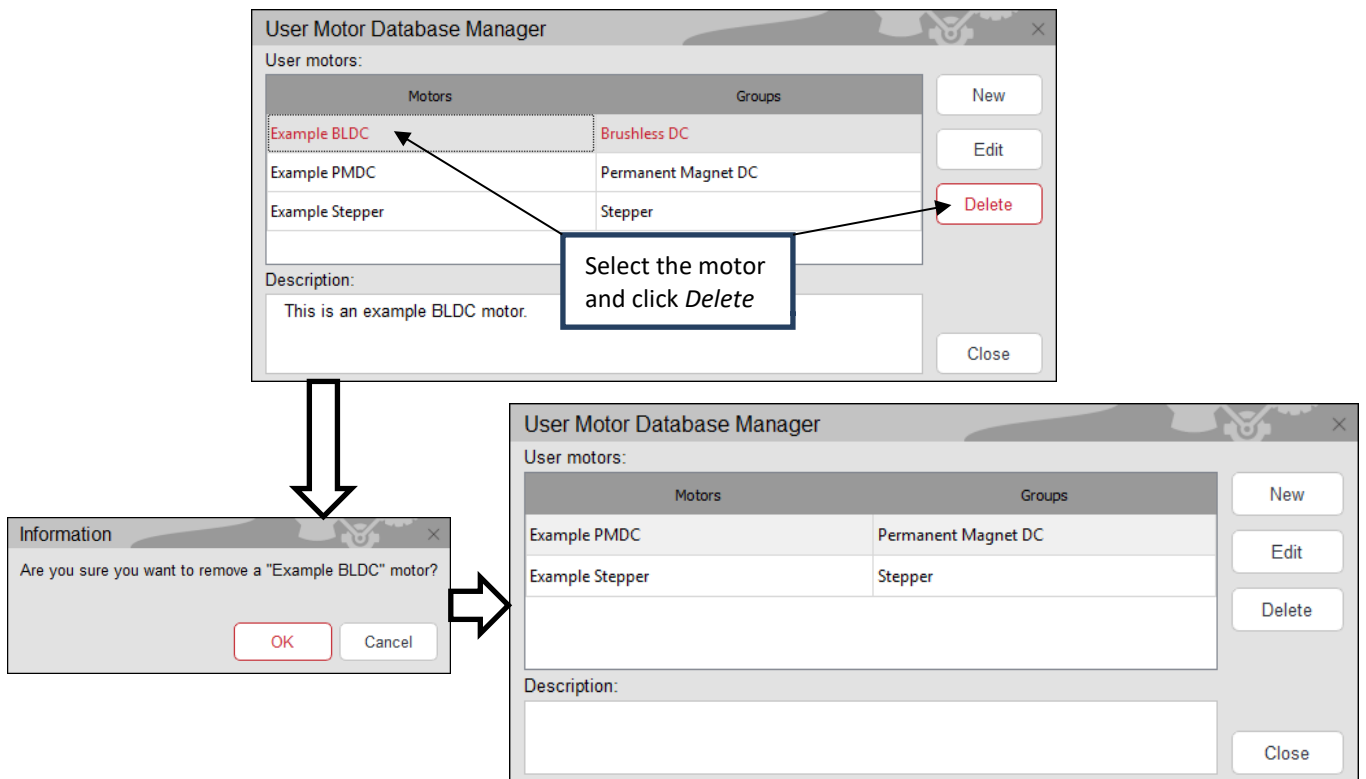

Figure 77: Delete Motor
- Open the *User Motor Database Manager* window and select the motor to be deleted and click *Delete*. Click *OK* in the information window as shown in Figure 77: Delete Motor. This will delete the selected motor from the user motor database.